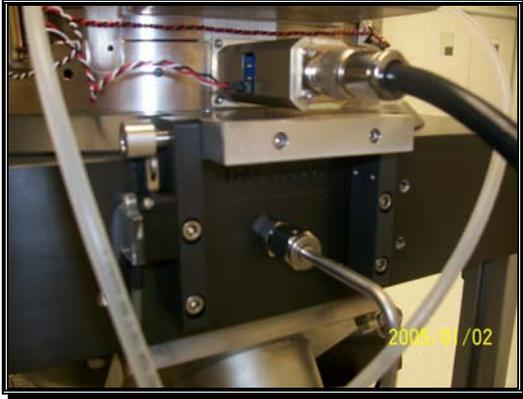

Figure 3
8. Remove the Switch Cam on the left hand end of the hinge block by loosening the set-screw and sliding it off the hinge pin (Figure 3)
9. Remove the two hinge blocks at rear of chamber by removing the (4) 10-32 SHCS's, and sliding them off the hinge pin. (Figure 3)
10. Disconnect RF cable and 25 pin “D” connector cable from Triode. (Figure 3)
14. Reconnect the Hinge blocks per step 9, Figure 3